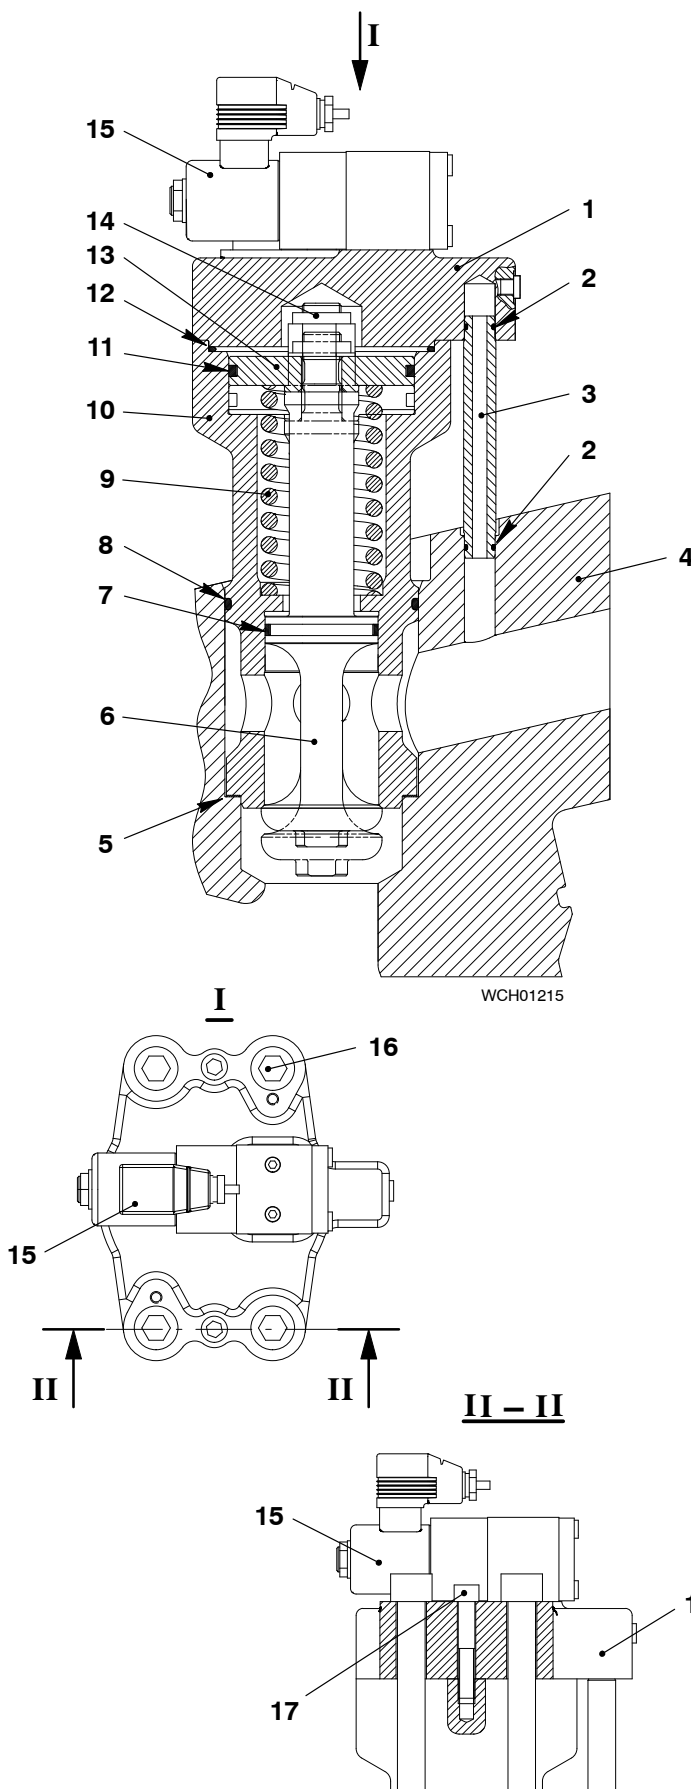

Fig. 1
1) Disconnect the electrical connection from the 3/2-way solenoid valve (15, Fig. 1).
2) Remove the four screws (16).